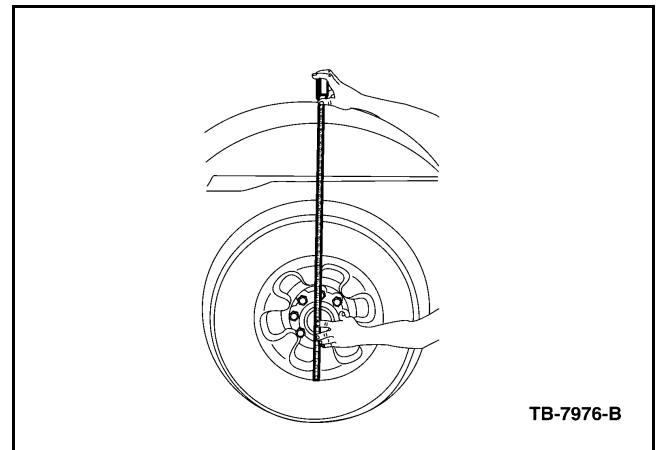

Figure 1 - Article 04-23-6
3. Measure the vehicle ride height from wheel lip to top of wheel well opening, at all four corners, Figure 1.